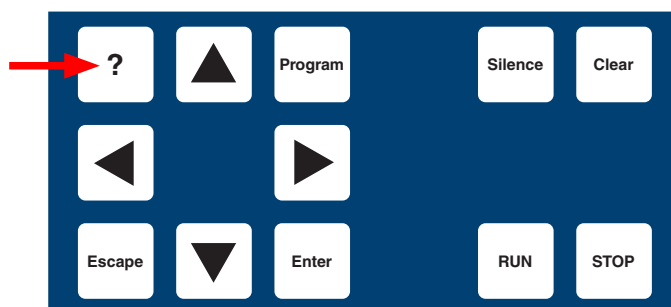

Figure 9.4a: Keypad - Diagnostics Key Indicated
- Press the **?** key on the control panel keypad (Figure 9.4a) to display Diagnostic Messages.